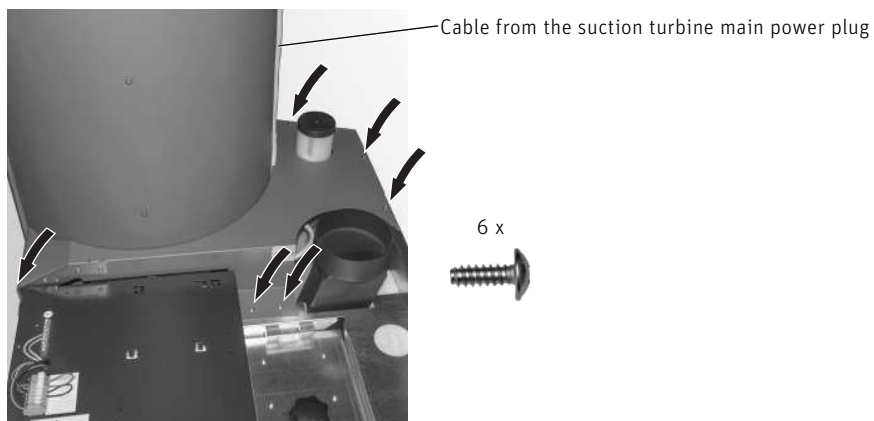

Fig. 67 Secure the cladding with 6 self-tapping screws
- ▶ Carefully insert the cladding, top left, lay the cable from the suction turbine main power plug into the notch and secure cladding with 6 self-tapping screws – Fig. 67.